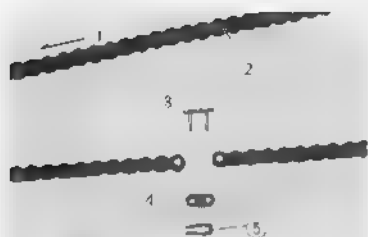

Fig. 4.102 Chain clip direction
- a. The chain joint clip must be installed so that the opening is opposite to the direction of rotation. (Fig. 4.102)